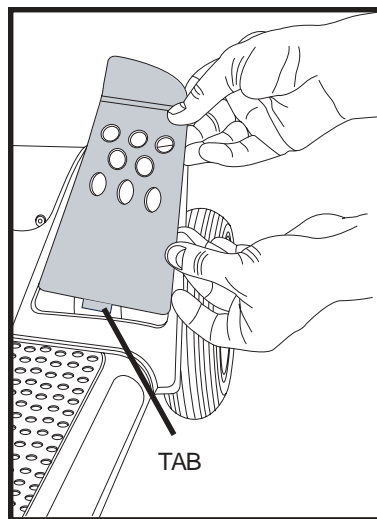

Figure 10. Front Fender Panel
See figures 10, 11, and 12.
**NOTE:** When installing the front fender panel, make sure the tab at the bottom of the panel is inserted into the tab opening before securing the panel. See figure 10.